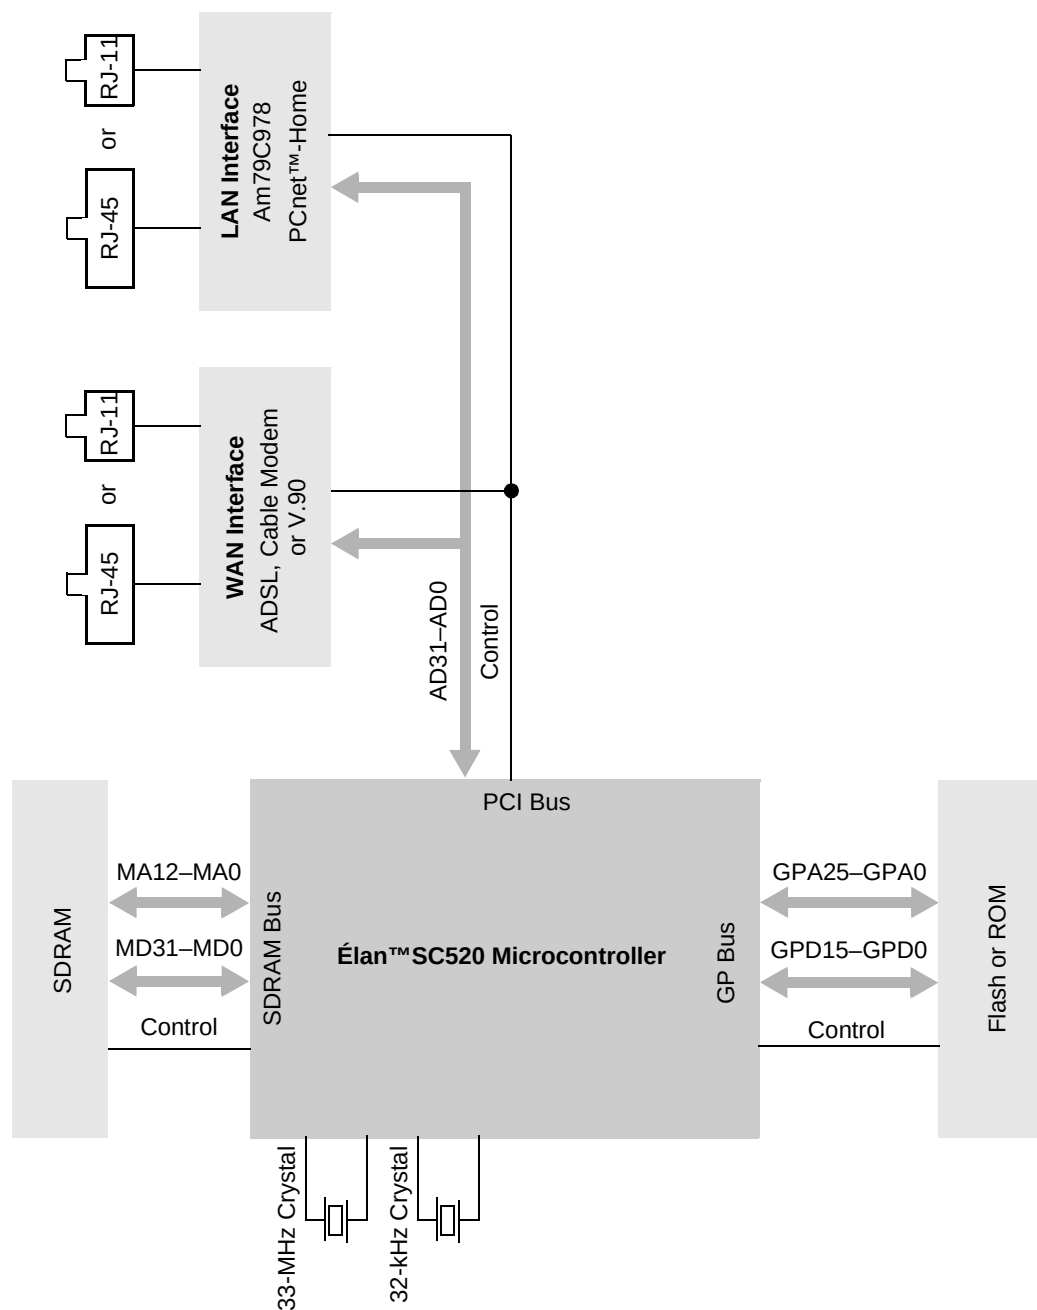

Figure 2. Élan™ SC520 Microcontroller-Based Smart Residential Gateway Reference Design
- Figure 2 on page 34 shows an ÉlanSC520 microcontroller-based Smart Resident Gateway (SRG), which is a router for a home network between the wide area network (WAN) (the internet) and a local area network (LAN) (an intranet of computers and information appliances in the home). The SRG provides firewall protection of the LAN from unauthorized access through the internet. A common internet access medium is shared by all users on the LAN.